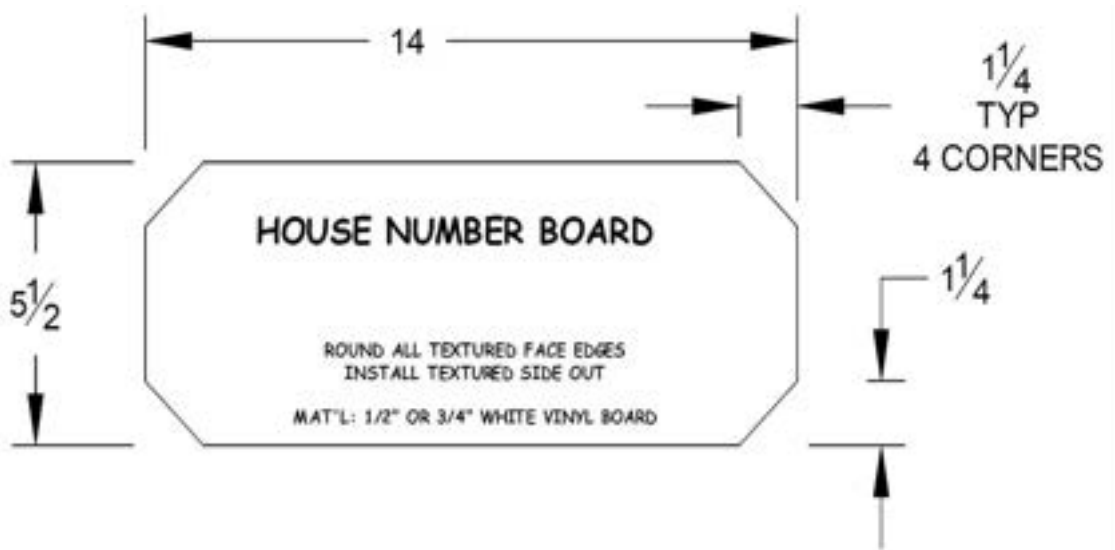

Figure 20-2. House Number Board Specifications.
3. If a house number board is not available on site, one can be created using a piece of ½" or ¾" vinyl board (see Figure 20-2).